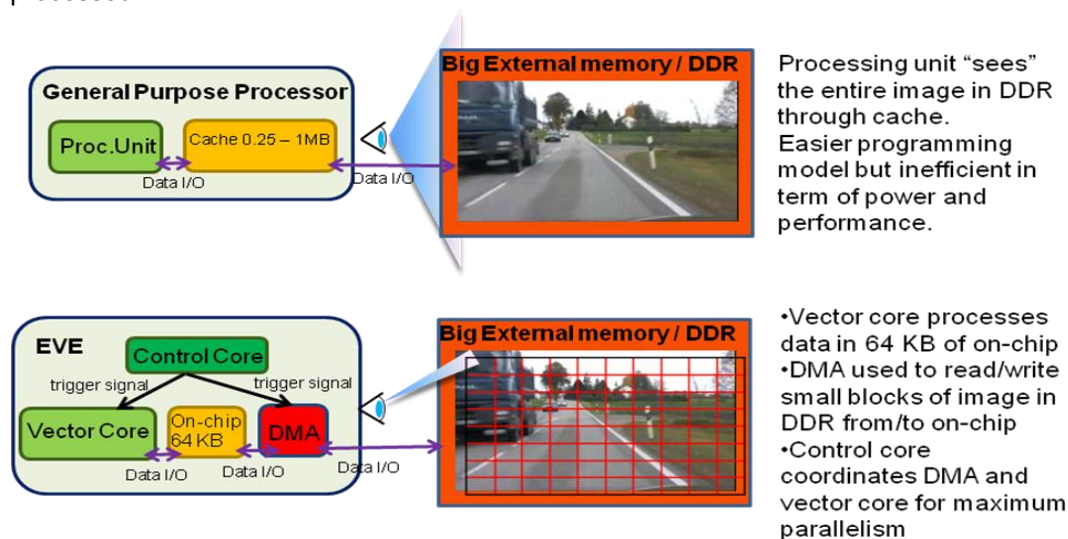

Figure 1 Differences between GPP and EVE in managing the data
- Figure 1 Differences between GPP and EVE in managing the data